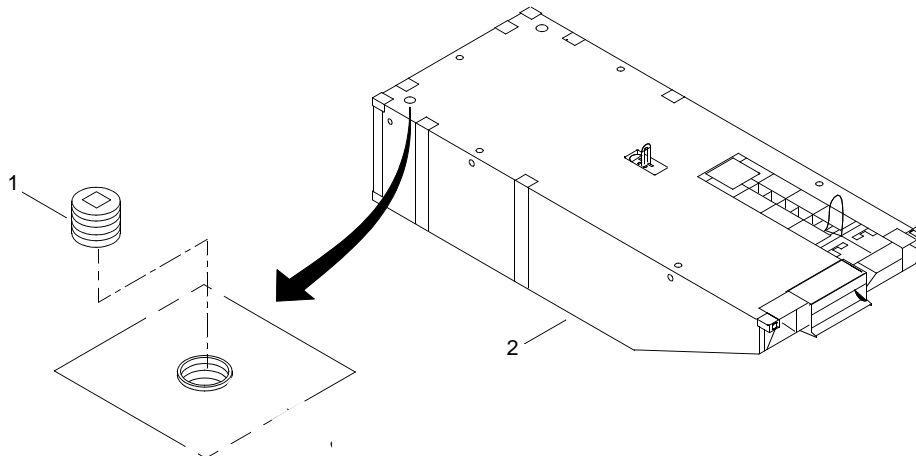

Figure 2. End Rake Module Drain Plug
2. A drain plug (figure 2, item 1) is located on the top of the left/right and center end rake modules (figure 2, item 2).